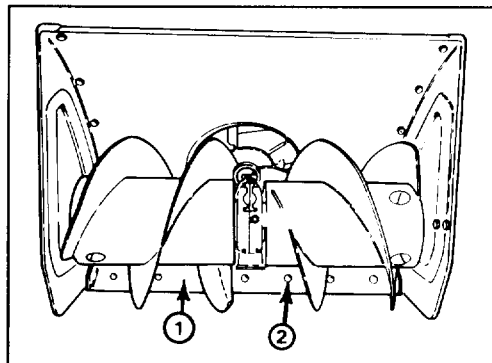

Figure 18
3. Next, loosen the (6) carriage bolts securing the scraper to the auger housing (Fig. 18).